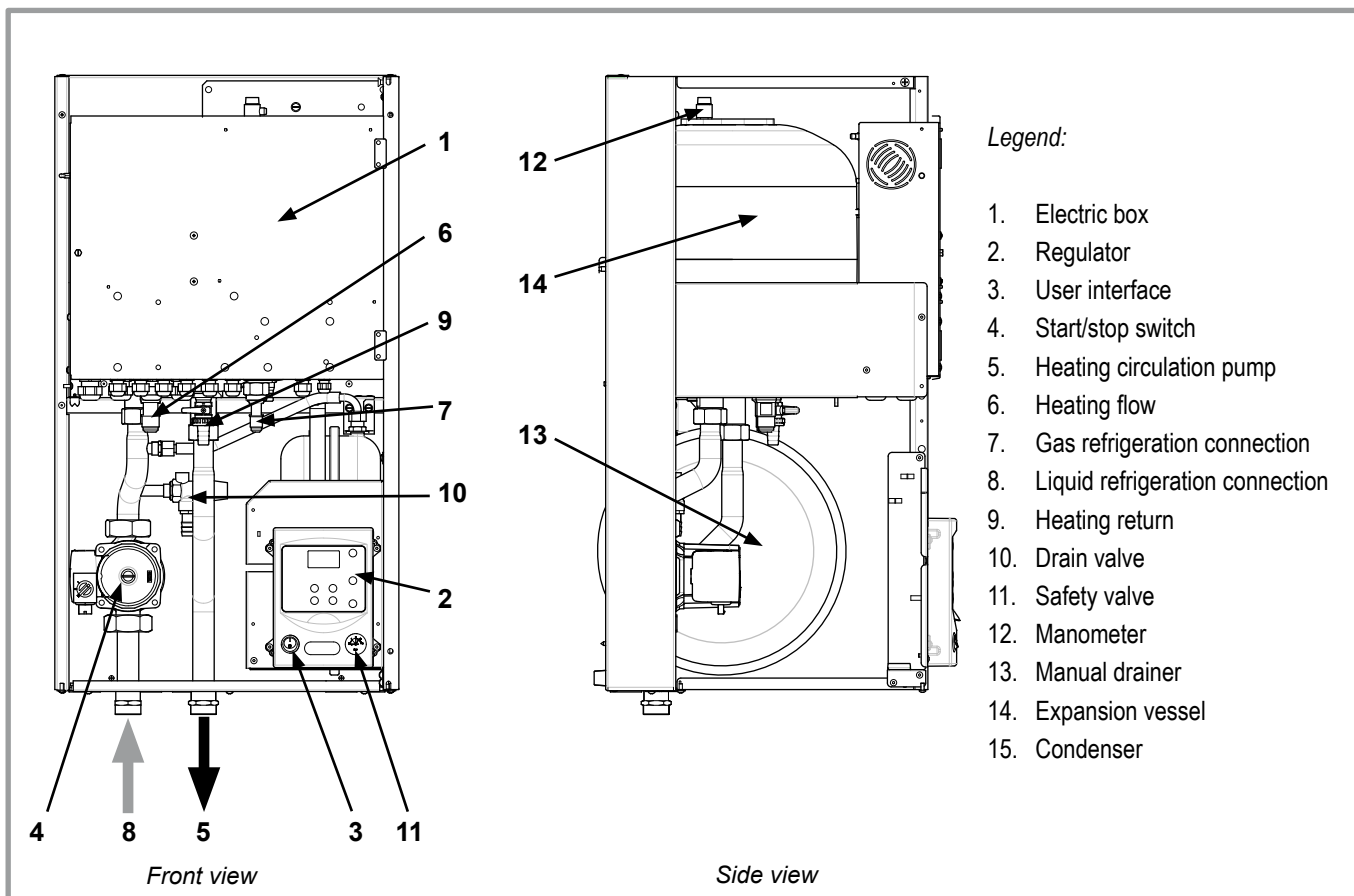

figure 8 - Hydraulic unit components
- In the condenser (reference **14**, figure 8, page 10) : The energy in the refrigerant is transmitted to the heating circuit. The refrigerant returns to liquid state.